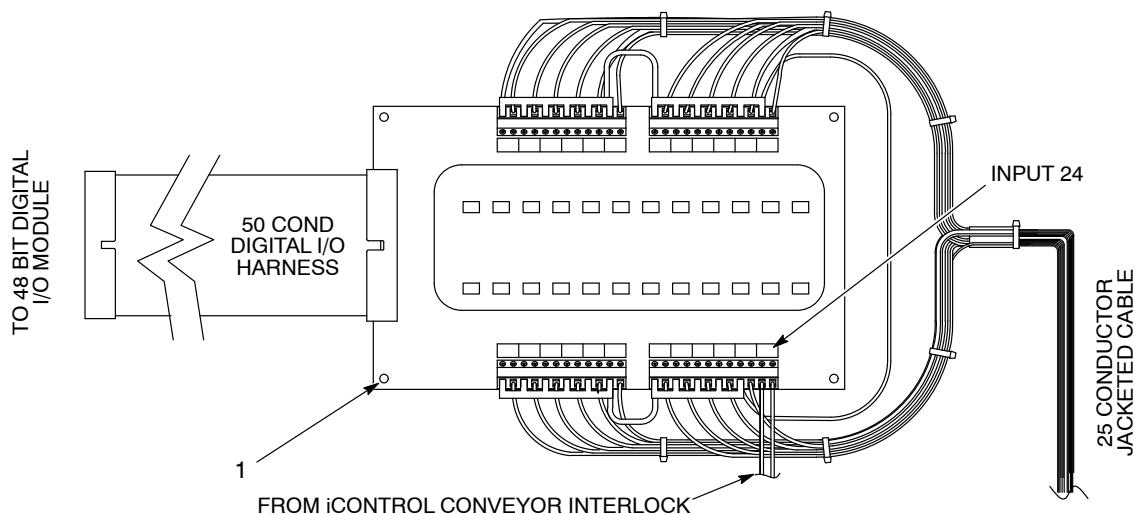

Figure 1 Old Interface Card with Wiring and Ribbon Cable Connections
1. See Figure 1. Disconnect the 25 conductor cable wiring at interface card. Also disconnect the “conveyor interlock” wiring from input 24 of the interface card.
3. Remove the four screws (1) securing the interface card. Save the screws to install the new interface card.